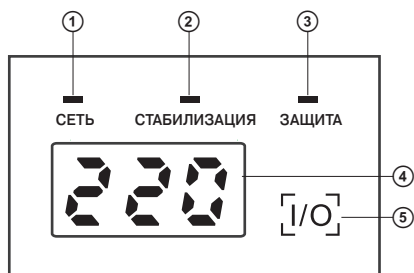

Fig. 1. Control panel
4. DESCRIPTION (see. Fig. 1, 2 and 3)
① СЕТЬ (NETWORK): LED (green) lights up when there is a input voltage
② СТАБИЛИЗАЦИЯ (STABILIZATION): LED (yellow) lights up when operating stabilizer for rise/fall if the input voltage display is turned off
③ ЗАЩИТА (PROTECTION): LED (red) lights up in case of accident (high/low voltage protection operation, autotransformer thermal overload), blinks at working off delay
④ Digital display: on default it displays output/intput voltage level (displaying accuracy $\pm 3\%$);